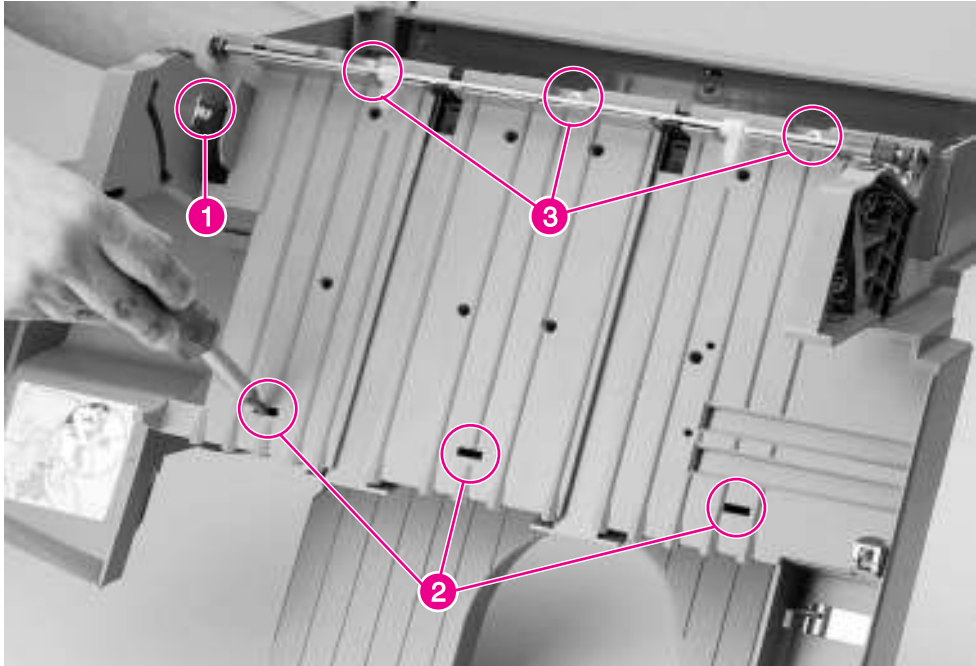

Figure 6-186 Stapler Bed Assembly
- 3 Remove the Stapler Unit Controller PCA (see figure 6-186 on page 371, callout 1).
- 7 Insert a flat-blade screwdriver into the top of the Stapler Bed Assembly and push gently to release the latches in the front of the stapler bed (see figure 6-186 on page 371, callout 2).
- 8 Remove 3 Torx screws that join the stapler bed with the rest of the unit (see figure 6-186 on page 371, callout 3).
- 3 Remove the Stapler Bed Assembly (see figure 6-186 on page 371).